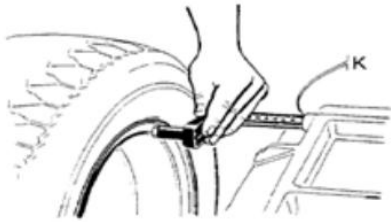

Fig.1
- set “a” value: move the gauge to measuring position as illustrated as Fig.1, hold the gauge still in position for approx. 4 seconds, successful memorization is given, then return the gauge to position 0. (The value measured in automatic mode